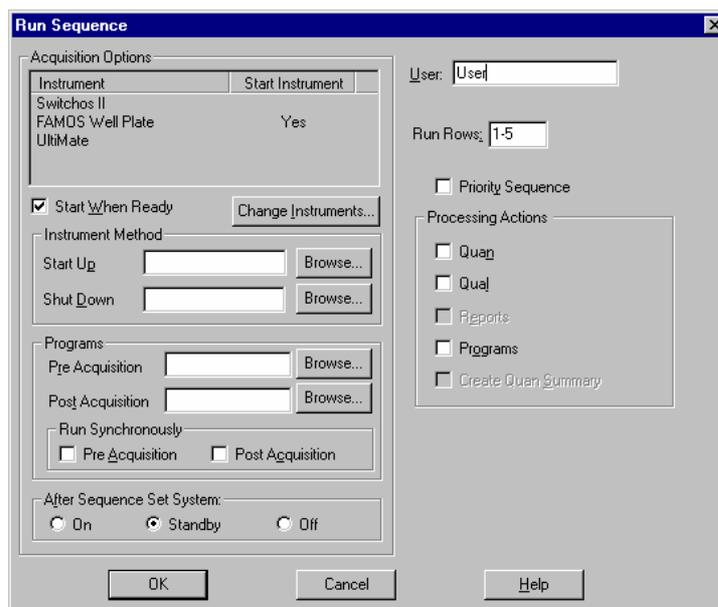

FIGURE 2-41 The Run Sequence Window
- a) Start the sequence by choosing the **Actions** menu and then **Run Sequence** or by choosing the  button in the toolbar. The **Run Sequence** window will appear (FIGURE 2-41).
**Note:** FIGURE 2-41 shows the FAMOS Well Plate Microautosampler as 'Start Instrument', which means that the FAMOS is started by Xcalibur. After the FAMOS has completed its activities, a pulse from the FAMOS will start the gradient program of the UltiMate system and the data acquisition of the Mass Spectrometer.